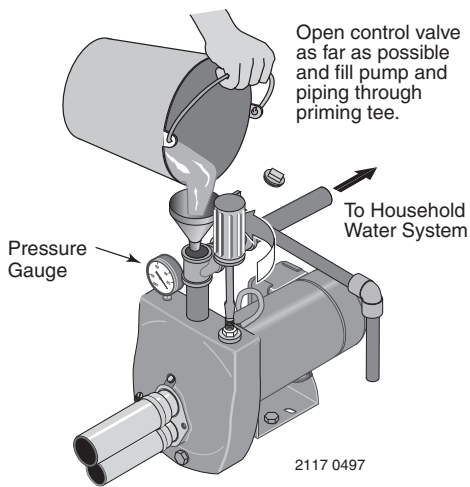

Figure 10: Fill Pump
Step 1. Open the control valve as far as possible (see Figure 10). Then remove the priming plug from the pump and fill the pump, fill all piping between the pump and the well, and make sure that all piping in the well is full. If you have also installed a priming tee in the suction piping, remove the plug from the tee and fill the suction piping.